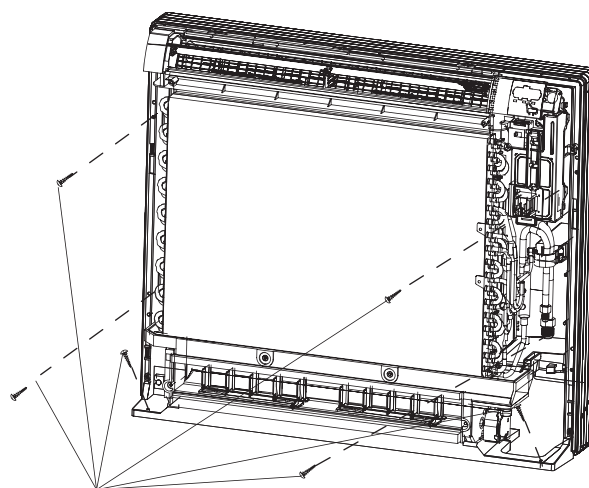

Fig.5-8
- For floor installations, secure the indoor unit using 6 screws. (Do not forget to secure to the rear wall.) (Refer to Fig.5-8)